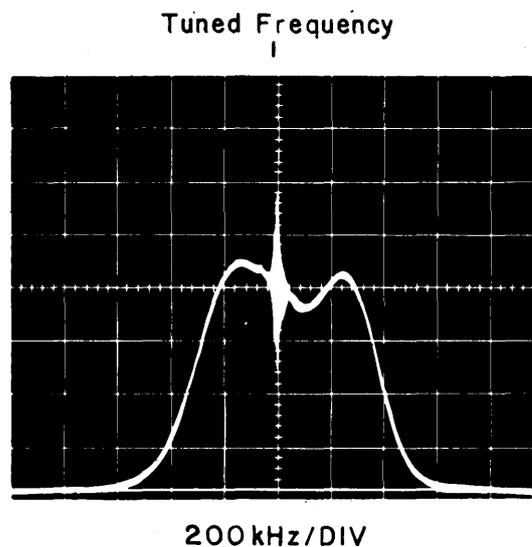

Figure 4-11. Typical Response, .5-1.5 MHz RF Preselector
- (7) Repeat steps (3) through (6) until interaction between adjustments is minimized. The response obtained should be similar to the typical response illustrated in Figure 4-11. The 3 dB bandwidth should be approximately 20% of the tuned frequency.